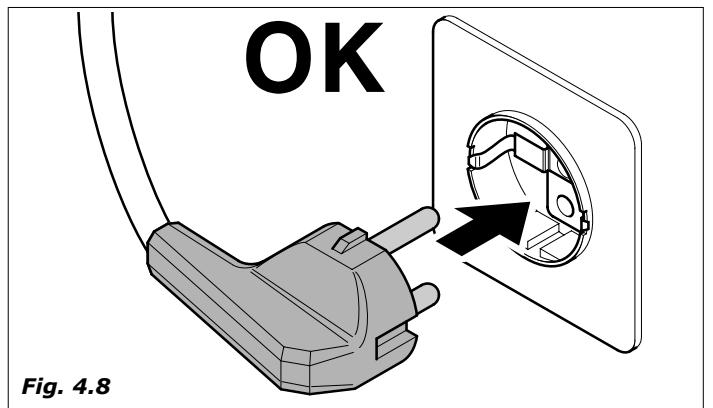

Fig. 4.8
- The distributor is equipped with a power supply cable of H05VV-F 3x1,5mm2, with SCHUKO plug (Fig.4.8).